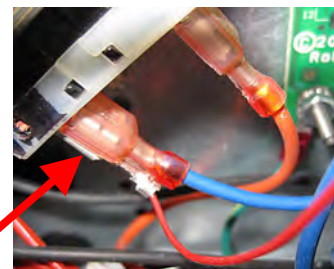

Figure 10
19. Attach a butterfly connector and reattach the wire removed in step 17 and the other wire from the harness in step 14 (see Figure 10).